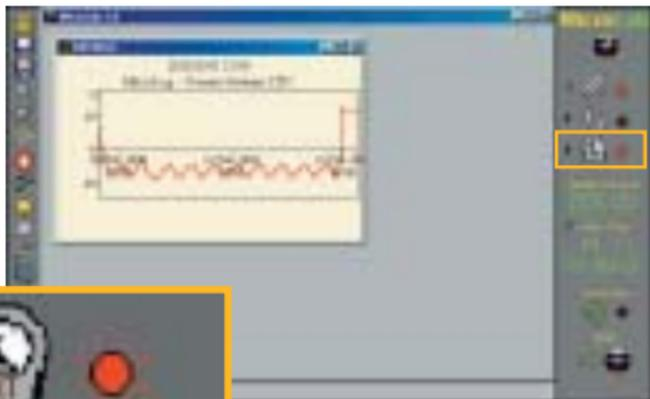

fig. 3
4. Activate the MicroLog external sensor by clicking on the Sensor Selection button next to the external sensor on the right-hand toolbar (fig. 3).